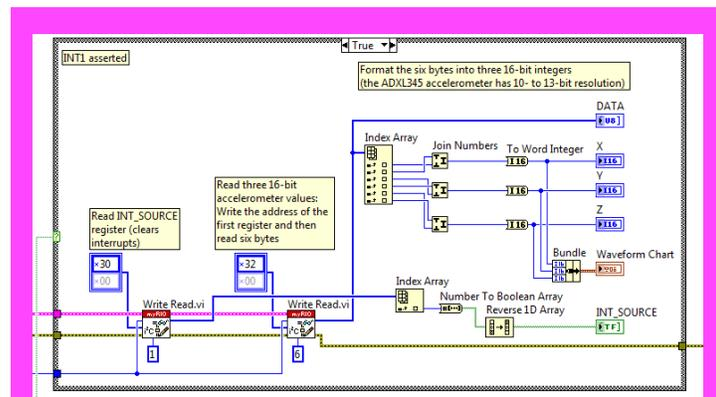
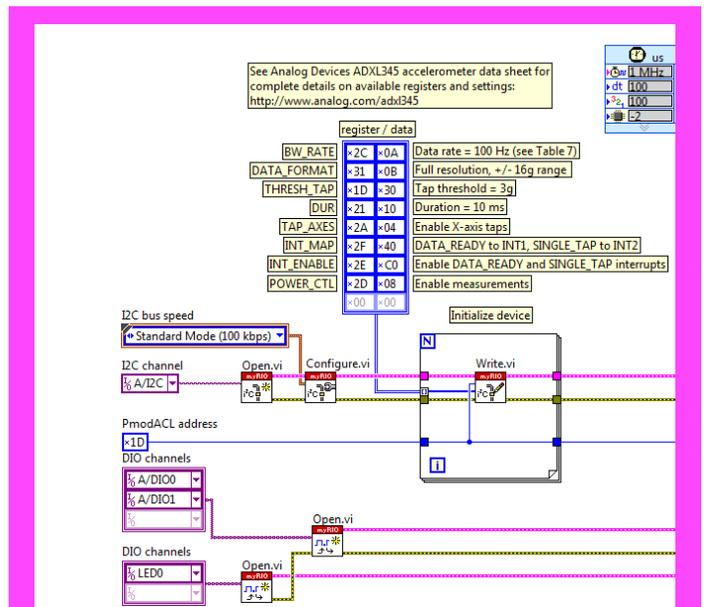

Figure 2: Reading the Accelerometer
Figure 3: Configuring the Accelerometer
Step 1: Connect the accelerometer as indicated in the circuit diagram shown in figure 3.
The main VI can be separated into two different sections: configuration and reading. Figure 3 shows the configuration portion of the block diagram which opens DIO channels and I2C channels to initialize the accelerometer. The DIO channels are opened for the interrupts of the accelerometer and I2C channel is used to read the accelerometer values. Figure 2 shows the VI reading the I2C channel to obtain the accelerometer values for the X, Y, and Z axes. For a more detailed explanation of how the main VI works watch the video: [youtu.be/\\_GWEsrfxU4](https://youtu.be/_GWEsrfxU4).